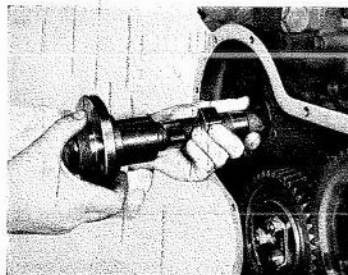

Fig. M.9.
5. Lift the tappets and remove the camshaft from its location in the cylinder block, taking care not to damage the journals, cams, or the tappets. See Fig. M.9.
7. Lift the tappets and withdraw the camshaft, followed by the camshaft thrust washer (See Fig. M.9).